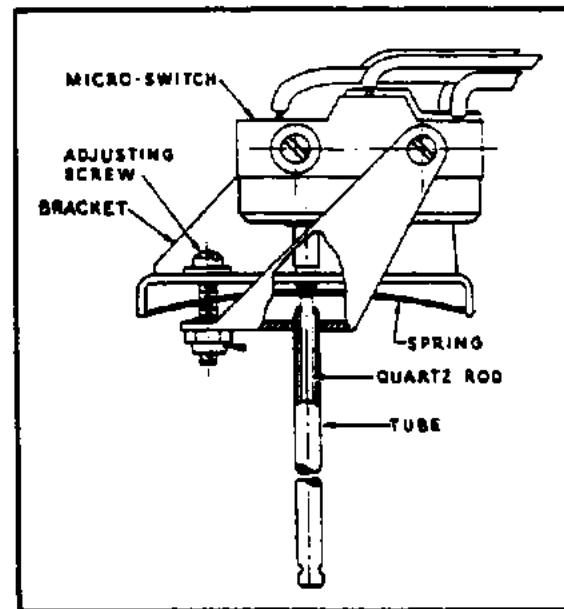

Figure 13-9. Flame Detector Switch
13-21. FLAME DETECTOR SWITCH. The purpose of the flame detector switch is to shut off the igniter and fuel pre-heater as soon as combustion has been established within the heater, and to provide a "purge" cycle after the heater is shut off. This switch consists of a hollow probe upon which is mounted a bracket and micro switch mechanism. The hollow probe contains a quartz rod which has a low rate of expansion when heated. (Refer to Figure 13-9.) The end of the quartz rod actuates the plunger of the micro switch. A leaf spring between the rod and plunger is provided to maintain a pressure through the rod against the end of the tube.
- b. Back off the adjusting screw (Refer to Figure 13-9.) until the switch clicks.